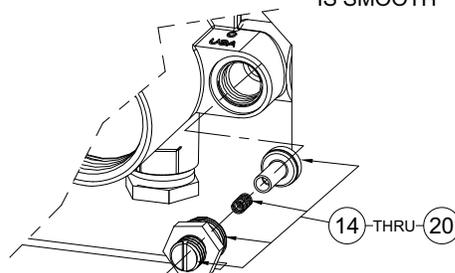

FIGURE 3
6. Slowly open **check adjusting screws 16** relieving line water pressure. Towel may be required to soak up water remaining in lines. Unscrew **check caps 14** counter-clockwise and remove **check stop assembly items 14 and 20**, this is similar on both Powers and SV16 Controls valves. Carefully remove stops and internal components(components may fall behind wall or panel). See **Figure 3**.